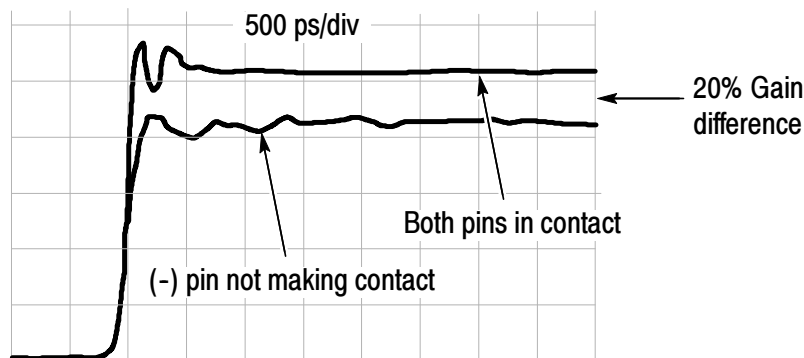

Figure 25: Verifying both probe pins are contacting the DM test points
14. Using the probe positioner, probe the DM test points on the probe calibration fixture. Compare your display to Figure 25 on page 41 to verify that you have a valid connection with both pins.